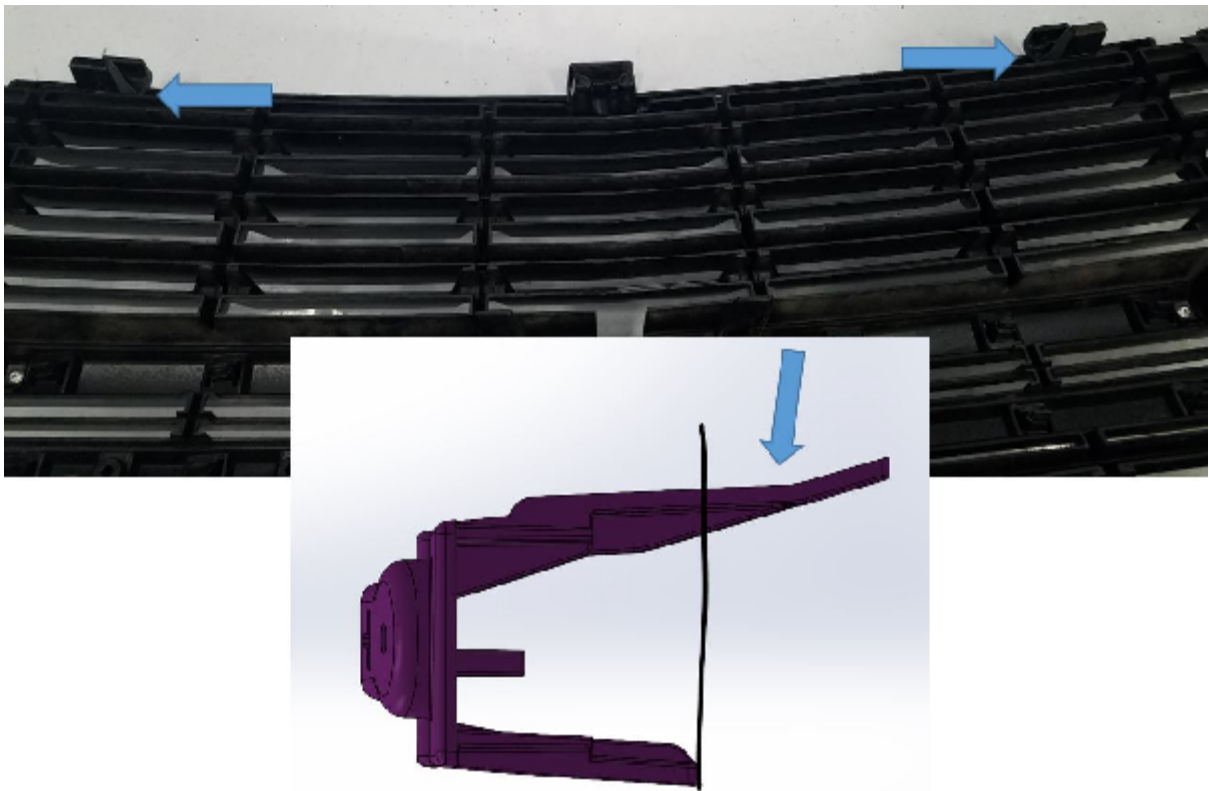

Fig. 6
6. Upper grill trimming, on inside grill need to trim two outer grill clips (blue arrow, Fig. 6), \*grill clips may require to trim top half (long flange) to match the length of the lower flange (trim blue arrow side)